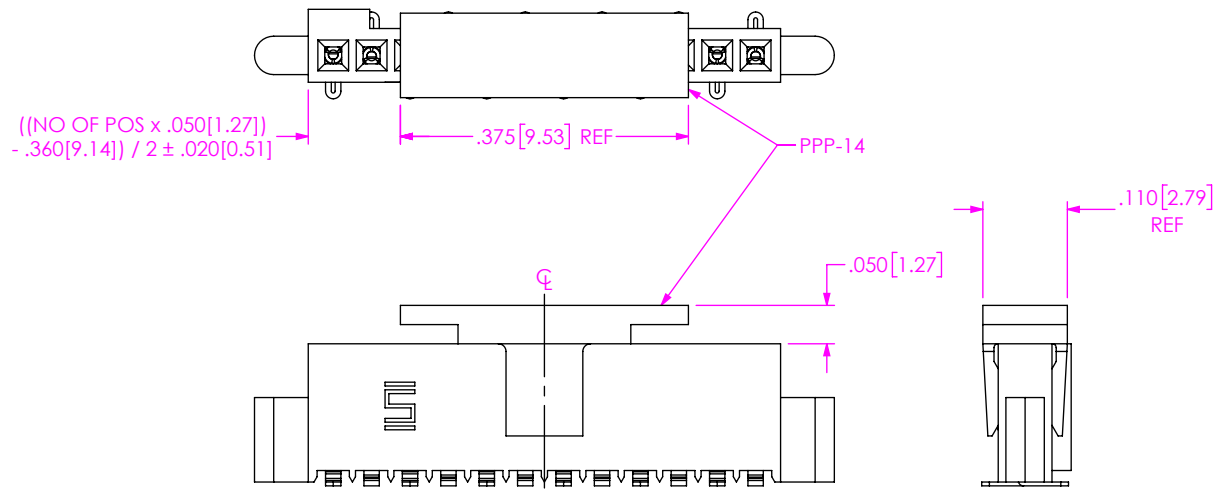

FIG 4
-P: PICK AND PLACE PAD (SEE FIG 4) (USE PPP-14) (AVAILABLE ON 5 THRU 50 POS ONLY)